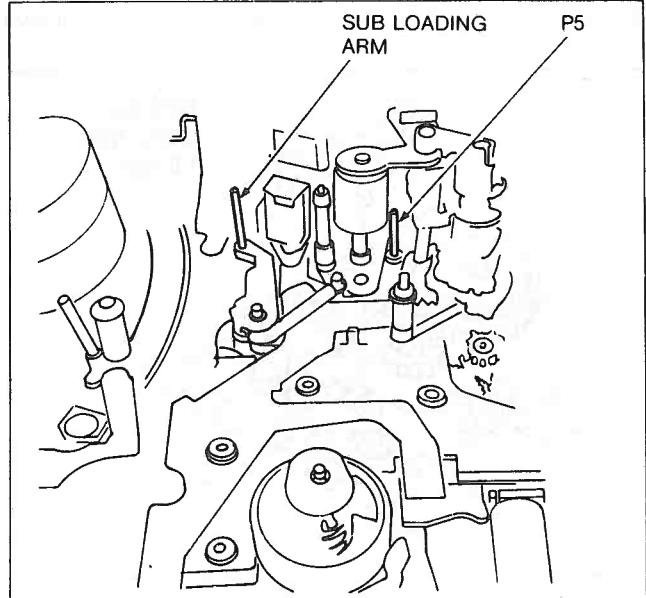

Figure M59
A. Confirmation of STOP1 Figure M59 Position